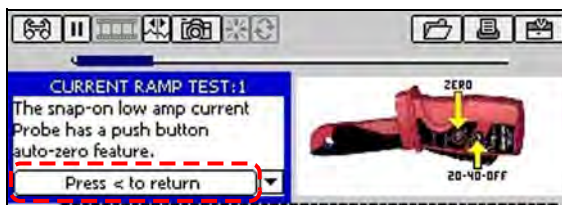

Figure 4-11 Sample jump bar return instruction
3. When you are finished, follow the on-screen instructions in the jump bar to return to the original screen (Figure 4-11).